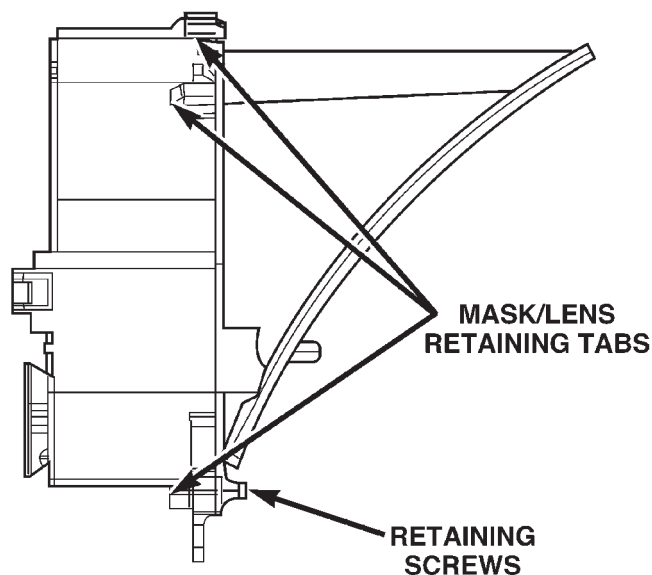
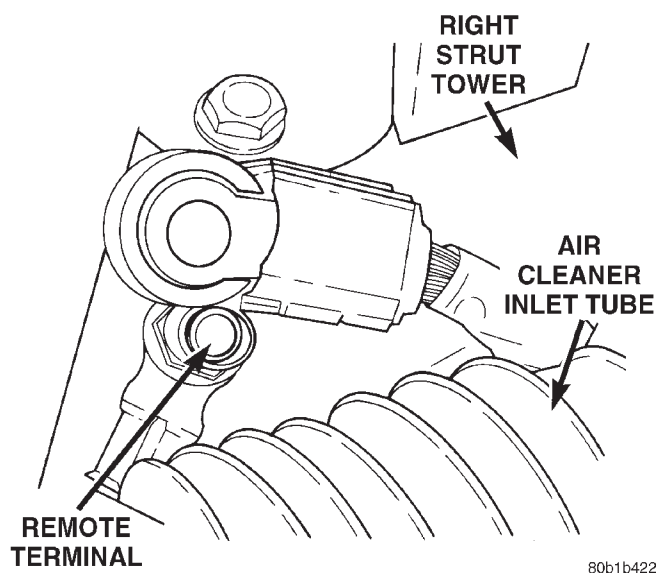

Fig. 13 Instrument Cluster Mask/Lens Retaining Screws
Fig. 18 Negative Battery Cable Remote Terminal
- (1) Open hood and disconnect the negative battery cable remote terminal from the remote battery post (Fig. 18).
- (2) Remove instrument cluster from vehicle. Refer to procedures in this section.
- (3) Remove two screws to mask/lens (Fig. 13).
- (3) Remove five cluster back cover retaining screws and remove the cover.
- (4) Remove nine screws to Printed Circuit Board and remove.
(1) Open hood and disconnect the negative battery cable remote terminal from the remote battery post (Fig. 18).
(2) Remove left instrument panel endcap. Refer to Removal and Installation procedures in this section.
(3) Remove left lower instrument panel cover. Refer to Instrument Panel and Pad Assembly Removal and Installation procedures in this section.
(4) Using a trim stick (special tool #C-4755), gently pry switch out of lower cover and remove from panel.
(2) Remove the left end cover and the cluster bezel.
(3) Remove the three screws on headlamp switch.
(4) Remove headlamp switch from vehicle.
(2) Remove the ash receiver assembly, if necessary.
(2) Remove ash receiver (if applicable).
(3) Using a trim stick (special tool #C-4755), gently pry out on center trim bezel. Disconnect wiring connectors to HVAC controls, cigar lighter/auxiliary power outlet and traction control switch.
(4) Remove instrument panel center trim bezel.
- (4) Unplug connectors from printed circuit board.
- (5) Remove cluster mask/lens from instrument cluster. Refer to Mask/Lens Removal and Installation procedures in this section.
- (6) Carefully pull out subdial assembly from cluster housing and remove.
- (7) Remove two screws to Vacuum Fluorescent (VF) display Odometer and remove from cluster.
- (2) Remove the left under instrument panel silencer/duct.
- (3) Twist and pull the switch assembly rearward from the brake bracket. After switch is free disconnect the wire connector and remove switch.